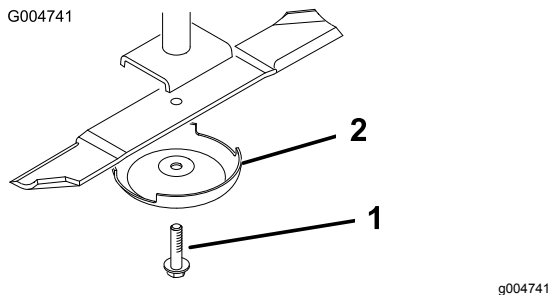

Figure 67
3. Remove the blade bolt, anti-scalp cup, and blade from the spindle shaft (Figure 67).